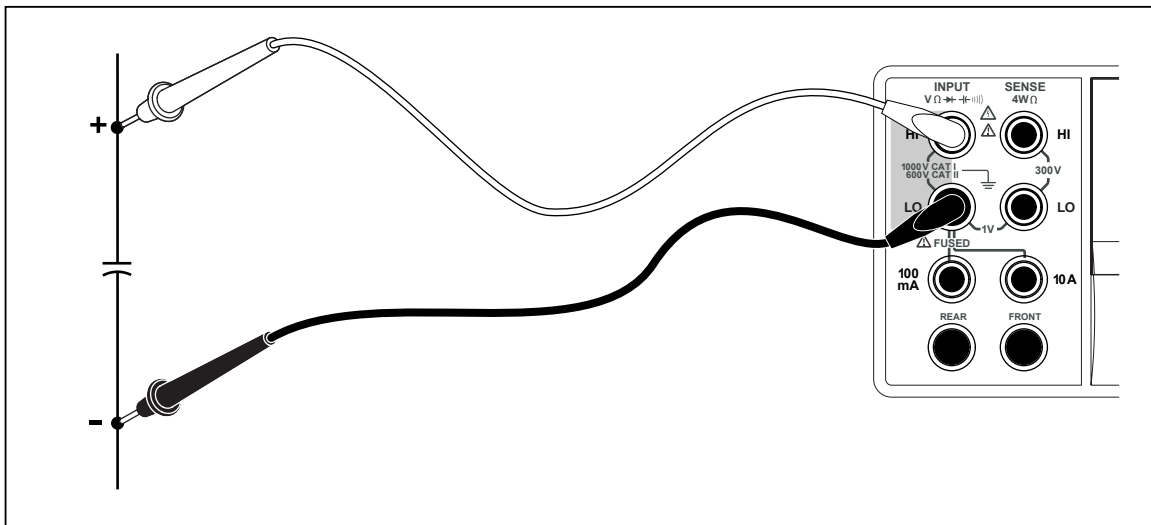

Figure 4-6. Measuring Capacitance
2. Connect the Meter's test leads as shown in Figure 4-6.